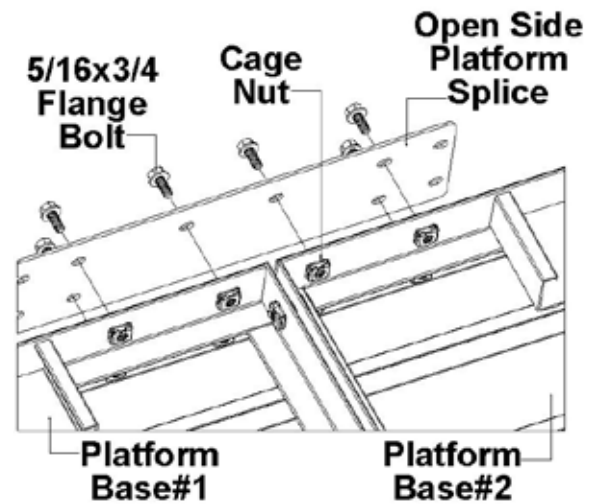

Fig.3.12
**3.5 Multiple Platform Base Open Side Assembly:** If an open side is required on a multiple base platform an open side platform splice, and some under support brackets will be needed (section 3.4 on page 14). With the under support brackets installed attach the open sided platform splice to each platform by lining up the holes in the open sided splice with the installed cage nuts of the platform, fasten the open sided splice with the 5/16x3/4 flange bolts (Fig.3.12).